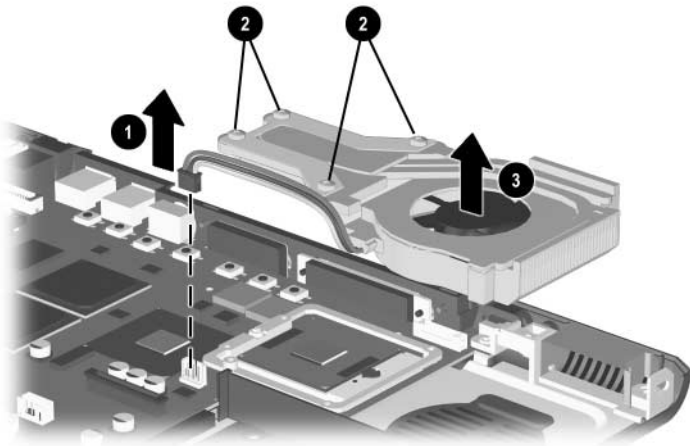

Figure 5-29. Removing the Fan
2. Disconnect the fan cable from the system board ❶ (Figure 5-29).
3. Loosen the four PM2.0 × 9.0 shoulder screws ❷ that secure the fan to the processor mounting bracket.